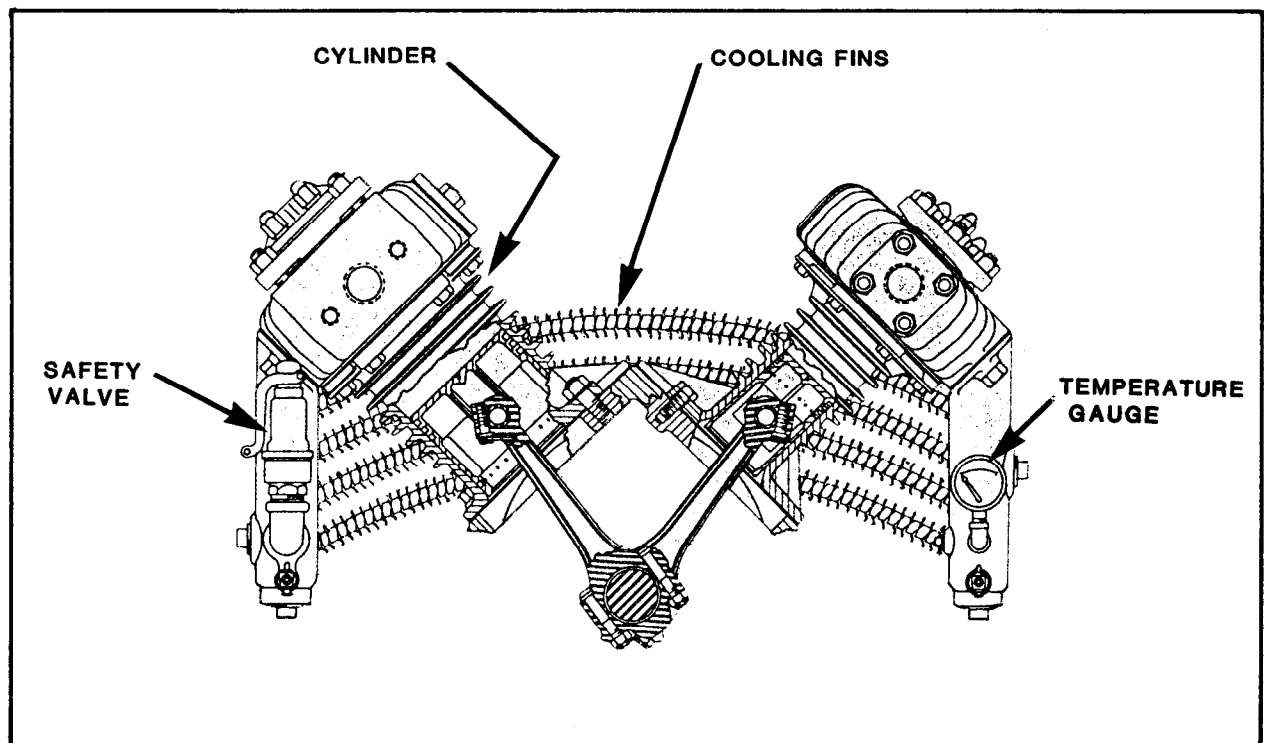

FIGURE 4-3. Air-Cooled Heat Exchanger
1.1 Air-Cooled Heat Exchanger. Air-cooled heat exchangers are most often used on small compressors. The air-cooled heat exchanger is a finned, tubular radiator (figure 4-3).